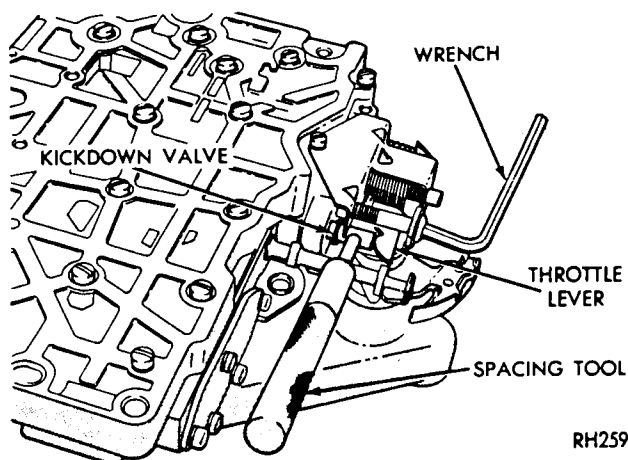

Fig. 7—Throttle Pressure Adjustment
(1) Insert gauge pin of Tool C-3763 between the throttle lever cam and kickdown valve (Fig. 7).
(2) By pushing in on tool, compress kickdown valve against its spring so that throttle valve is completely bottomed inside the valve body.
(3) As force is being exerted to compress spring, turn throttle lever stop screw with allen wrench until head of screw touches the throttle lever tang with throttle lever cam touching tool and the throttle valve bottomed. Be sure adjustment is made with spring fully compressed and valve bottomed in the valve body.